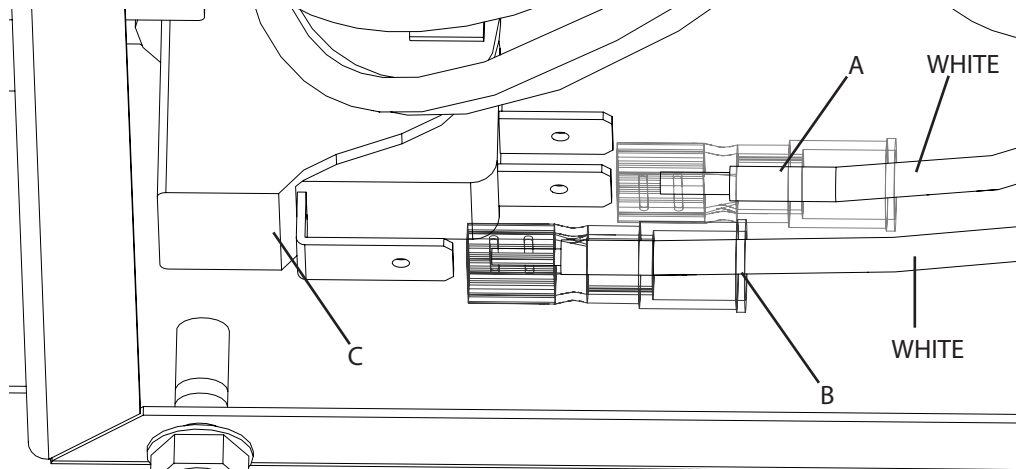

Figure 10: Connecting the foot switch.
- Connect the wire from the speed control knob (A) and the wire from the switch (B) (both wires are white) to the terminals of the foot switch (C) as shown. (Figure 10)